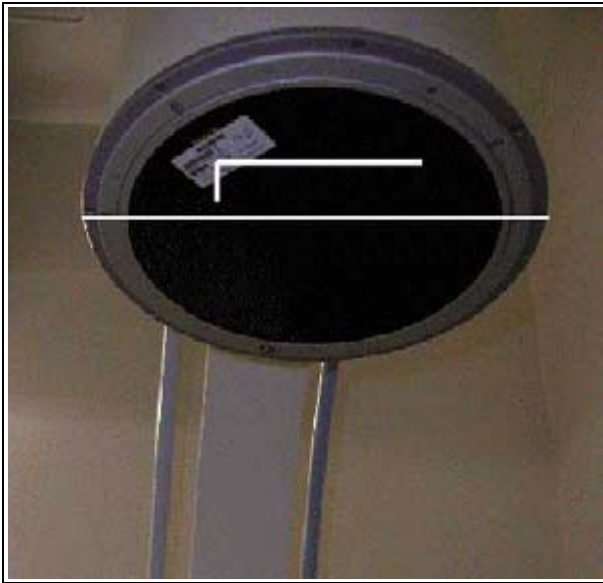

Fig. 3: I.I._input
3. Attach an Allen key and a solder wire to the image intensifier as shown in (Fig. 3 / p. 12).